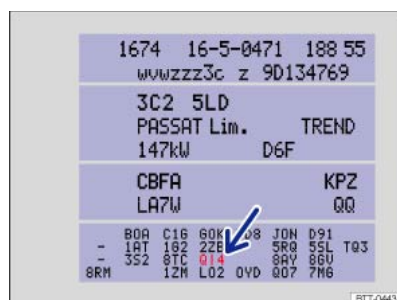

Fig. 250 Vehicle data sticker with PR number for the relevant service.
- From the PR number on the vehicle data sticker ⇒ Fig. 250 (arrow) ⇒ Technical data.